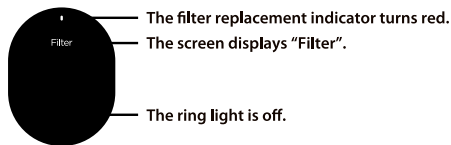

Figure 3
- If the filter has expired, the ring light will be off. Also, the filter replacement indicator will turn red and the screen will display "Filter" after flashing 3 times (Figure 3).